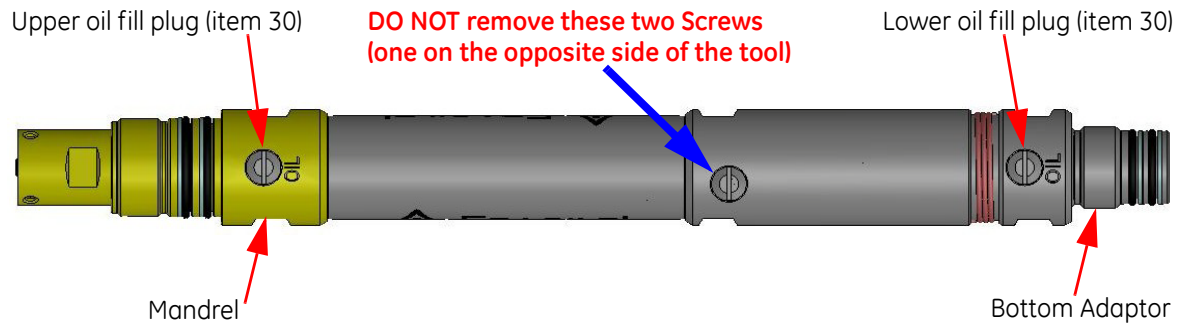

Figure D-1 Location of the two oil fill plugs
- i With reference to Figure D-1, place a rag over the two Screws (item 30) and put a suitable size container (to collect the oil) under the two Screws.
Note: With reference to Figure D-1, **DO NOT** remove the two Screws indicated as this will permit the Setting Pin (item 16) to fall out of the Piston Housing (item 12).
- ii Use a suitable screwdriver to remove and retain the two Screws (item 30). Make sure the associated O-Rings (item 23) are removed and the oil drains into the container.